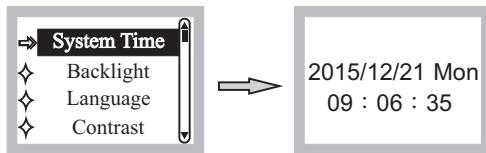

Fig. 19
- (3) Changing Date & Time: Press PLAY/PAUSE ▶▶ to enter the System Time setting mode, press PRV/TEN ◀◀ or NEXT/TEN ▶▶ to change. Press PLAY/PAUSE to confirm, Fig. 19.